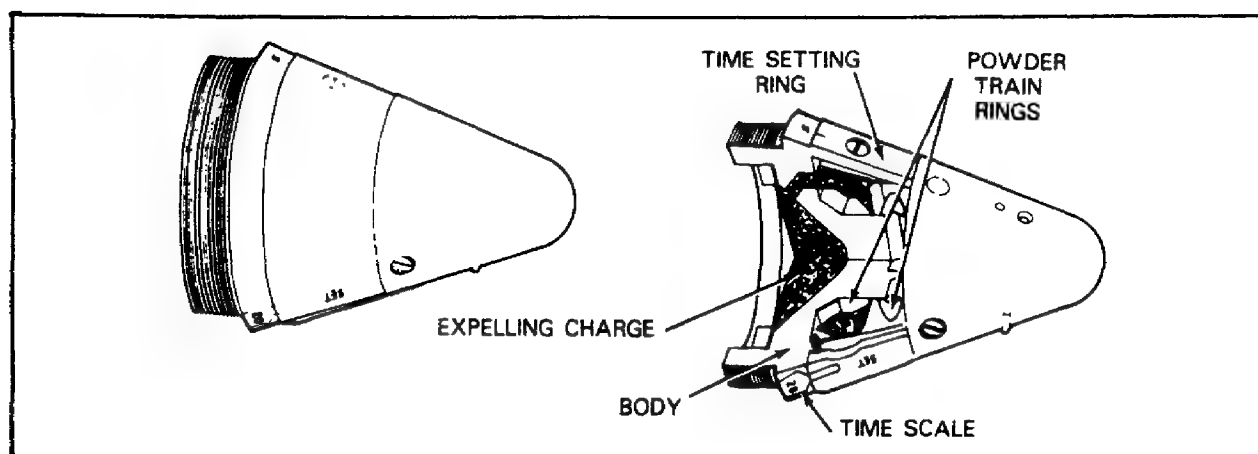

Figure 70. Fuze, Time, 81mm Mortar.
**Time (Powder Train) Fuze.** Figure 70 shows the only time fuze used with the 81mm mortar illuminating round. This fuze functions differently than mechanical time and mechanical time, superquick fuzes. Time is regulated by a slow-burning variable powder train. When the round is fired, the powder train in the fuze ignites and burns slowly until it ignites the expelling charge in the illuminating round. The length of the powder train can be adjusted by turning the circular scale. This fuze is easily identified by the large diameter of its threads and the absence of a booster assembly.